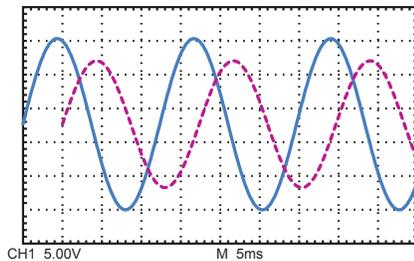

Figure 1b. Voltage and current waveforms are sinusoidal but out of phase; PF < 1.
Power factor (PF) is technically the ratio of real power consumed to apparent power (volts RMS x amps RMS), and is expressed as a decimal fraction between 0 and 1. PF is traditionally known as the phase difference between sinusoidal voltage and current waveforms. When the AC load is partly capacitive or inductive, the current waveform is out of phase with the voltage (Figure 1b). This requires additional AC current to be generated which isn't consumed by the load, creating  $I^2R$  losses in power cables.